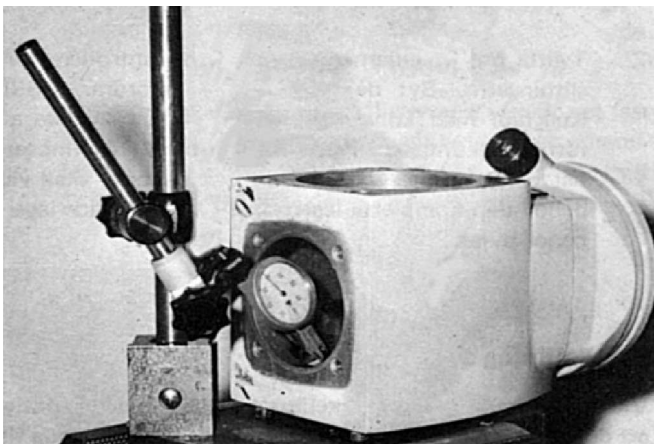

Fig. 13.
1. In order to get a clear picture of the tooth contact pattern, smear the teeth of the input gear and meshing gear with a thin coating of marking paint. Then fit the "Forward" gear in the gear housing (2) with the measured shims.
4. Fit the assembled double bearing box (12) with 0.3 mm (0.012") shims.
6. Measure the backlash with a rocker arm indicator. See Fig. 13. The backlash should be 0.15–0.25 mm (0.0060–0.0098") on B models. On other models C and D the backlash should be 0.08–0.18 mm (0.003–0.007"). If the backlash is too small, more shims should be placed between the double bearing box (12) and the upper gear housing (2). If the backlash is too large, reduce the thickness of shims. Note point 5.